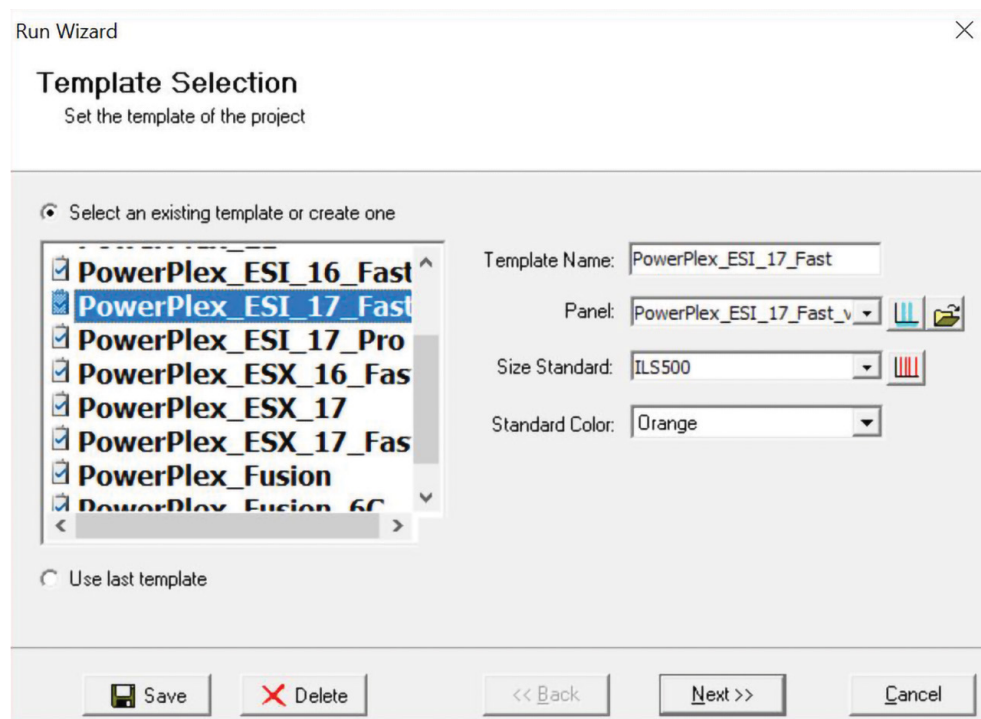

Figure 20. The 'Template Selection' window.
8. Click on **Run** in the Magic Wizard or click the **Run Project** icon (green arrow) in the toolbar. The 'Template Selection' screen will appear (Figure 20). Select the PowerPlex_ESI_17_Fast template and the settings shown in Figure 20. Verify the panel that you created in Step 6 is selected in the panel drop-down field. The Size Standard must be ILS500 and the Standard Color must be Orange. Select **Next**.